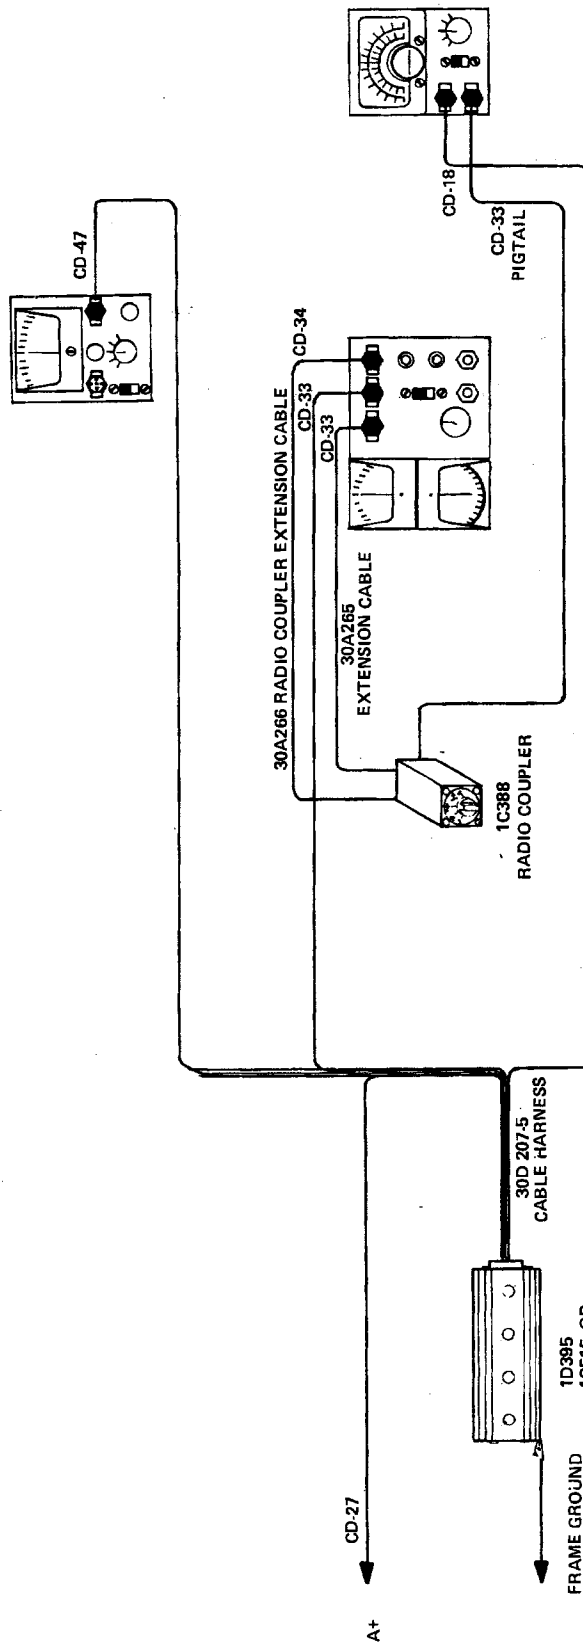

FIGURE 3-5
1. For the following checks the gyro substitute (66D141-1) should be connected in place of the Artificial Horizon as shown in Fig. 3-5. Set the roll vernier to 0° and the pitch/roll switch to roll.
- a. Install servo test box 66D141-2 in line with servo (See Fig. 3-5). Set voltage switch to the appropriate voltage and selector to AMPL-RES position.
- a. The radio circuitry tests require stable radio information from a V. O. T. or close omni station. If none is available connect a CD-34 extension cable from CD-34 on the Radio Coupler to CD-34 on Coupler Tester Box 66D141-4 (See Fig. 3-5).